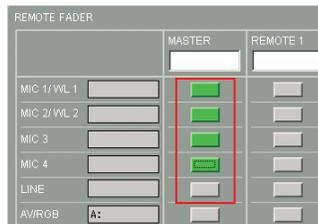

Fig. 1 REMOTE FADER Screen
2. Click MIC1 to MIC4 in the MASTER line on the REMOTE FADER screen (Fig. 1).